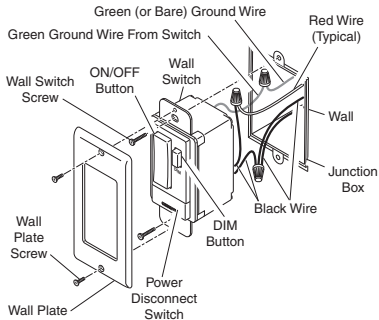

Figure 3 - Installing 3-Way Wall Switch (Transmitter Shown)
- Connect the green ground wire from transmitter to the ground wire removed from old switch. Use one of the supplied wire connectors to secure the wires (see Figure 3).
9. Position the wall switch transmitter in the junction box with the DIM button located to the right. Use the two wall switch screws (long) supplied to mount the transmitter to the junction box (see Figure 3). Push excess wiring into junction box while you do this, bending the wires to fit if necessary.